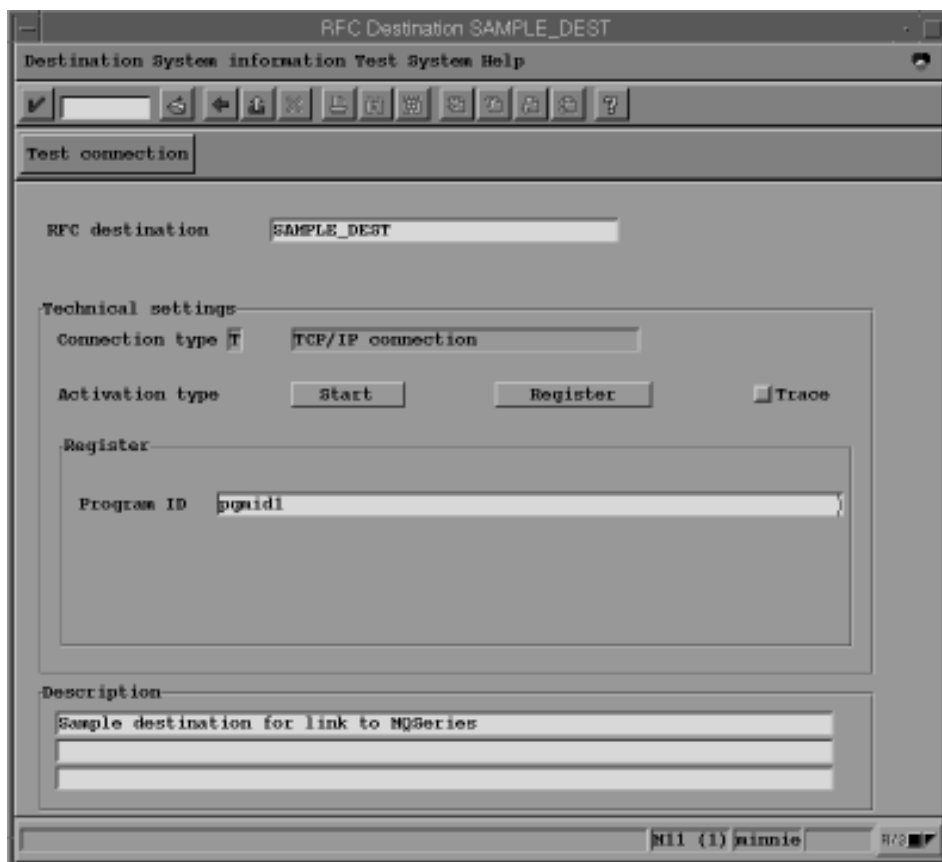

Figure 10. RFC Destination panel: specifying a program ID
- d. Save the settings. This displays the panel shown in Figure 10 on page 24.
4. Immediately click the Register button. This changes the appearance of the panel to that shown in Figure 10 on page 24.